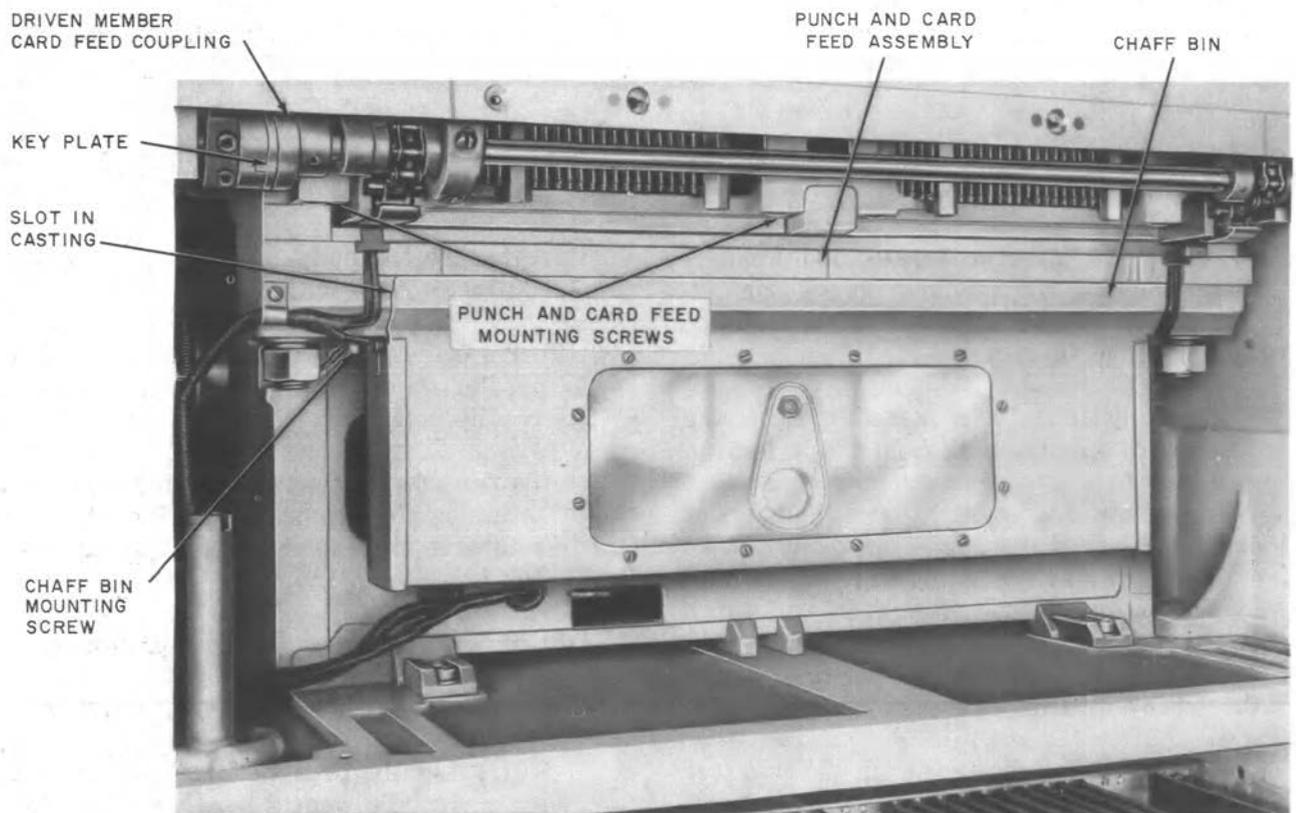

Fig. 43—KS-13904 Punch and Card Feed Assembly and Chaff Bin (Out-Bin Removed)
3.46 Punch and Card Feed Assembly Removal: To remove the punch and card feed assembly (Fig. 43 and 46), proceed as follows.